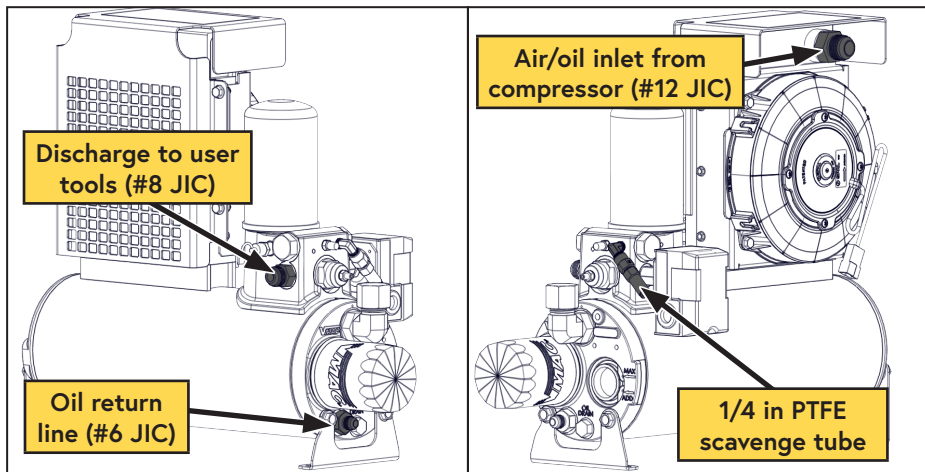

Figure 33 — WHASP Tank connections
Connecting the Interior Hoses (Figure 33)
- Connect the 90° fitting on the 3/4 in x 38 in hose to the #12 JIC fitting (air/oil inlet) on the cooler above the fan (Figure 33).
- Connect the 90° fitting on the 3/8 in x 60 in hose to the #6 JIC fitting (oil return fitting) beneath the oil filter on the tank (Figure 33).
- Connect the 1/4 in PTFE tube to the 1/4 in push-to-connect (oil scavenge) fitting near the coalescing filter (Figure 33).